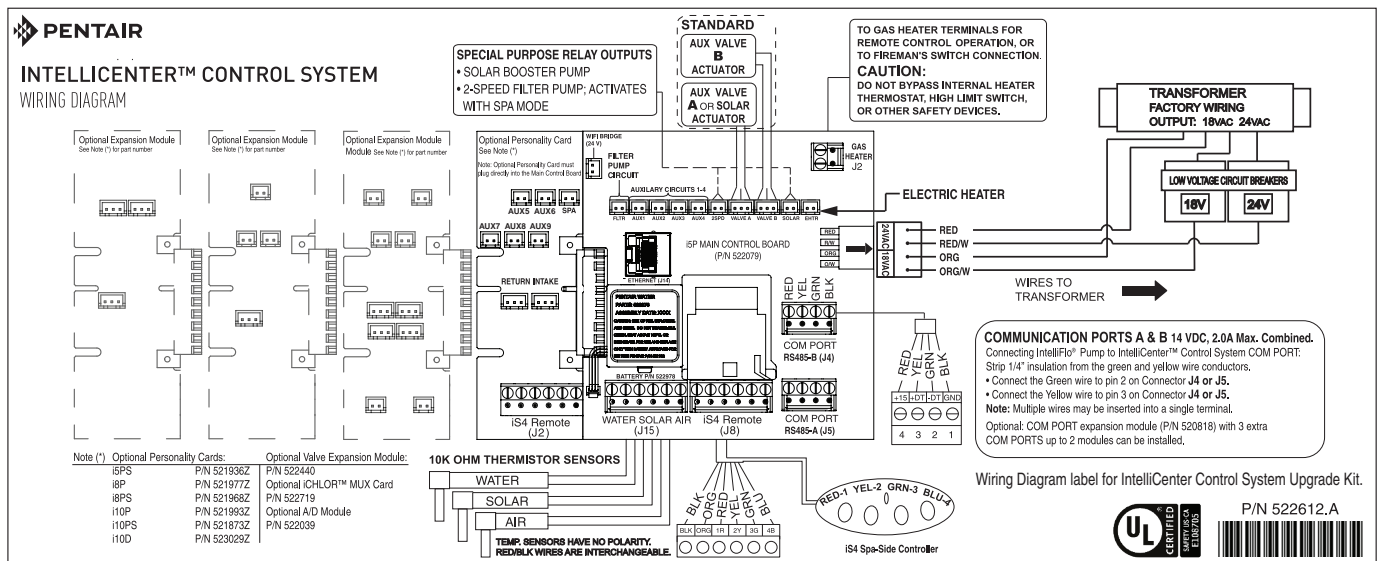

Figure 9. IntelliCenter Control System Circuit Board
3. Reconnect all of the low voltage connections on the main circuit board. See Figure 9 on page 9.